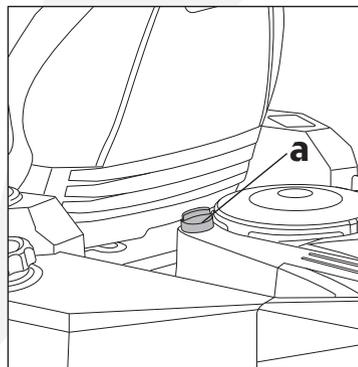

Fig. 11
- Remove the engine oil dipstick (a, Fig. 11). Wipe the dipstick clean, ensuring no oil remains.